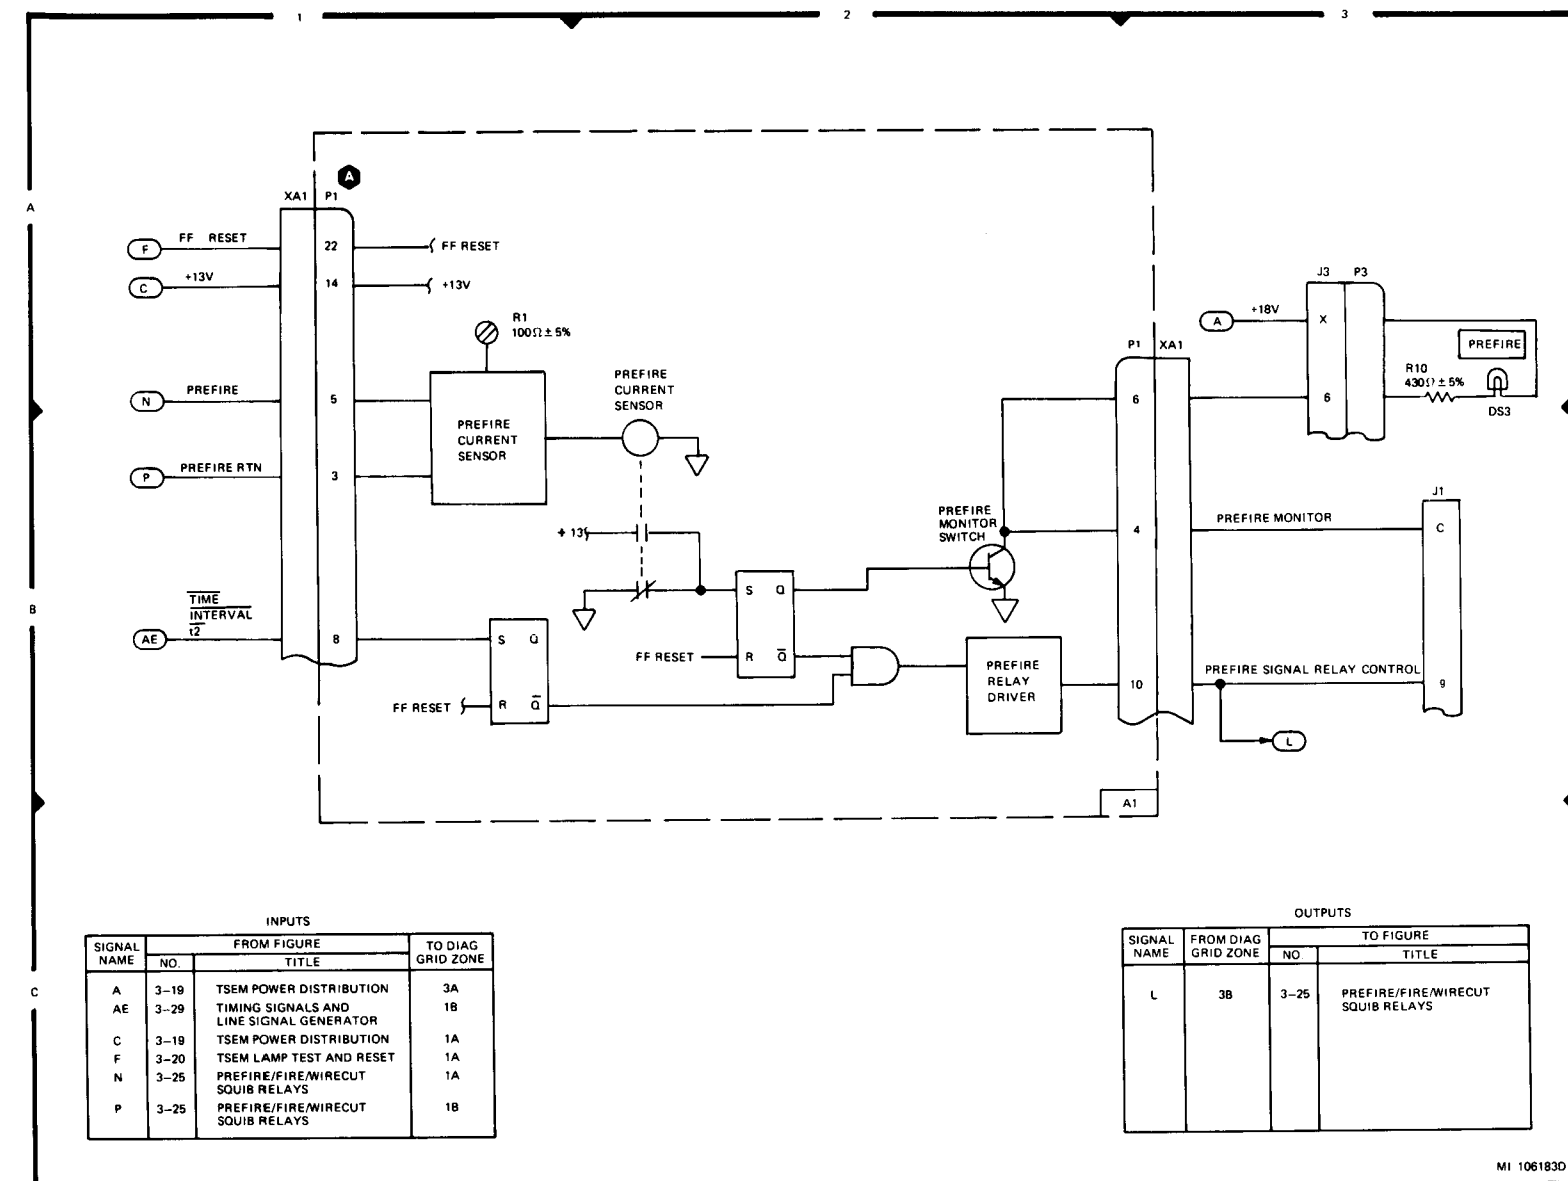

Figure 3-22. Prefire Functional Diagram
d. Prefire Function (Fig. 3-22). This function verifies that prefire current is of sufficient magnitude to activate prefire squibs in the TOW missile.
A1	Figures 3-22, 3-23, 24,